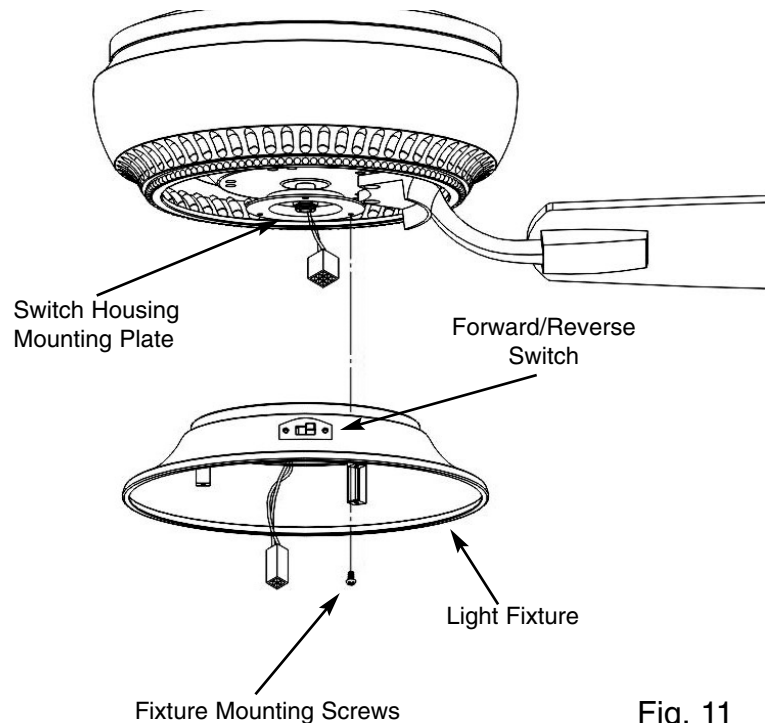

Fig. 11
Attach each fan blade to a blade arm with four (4) 3/16" x 1/2" washer head screws and four (4) 3/16" screw pads (see figure 11). **DO NOT OVER TIGHTEN THESE SCREWS.**
Tighten other 2 keyway screws (see figure 11).
The slide switch located on the switch housing (*see figure 11*) controls the direction of blade rotation. The LEFT position sets the blades in REVERSE rotation (air moves UP). The RIGHT position sets the blades in FORWARD rotation (air moves DOWN).